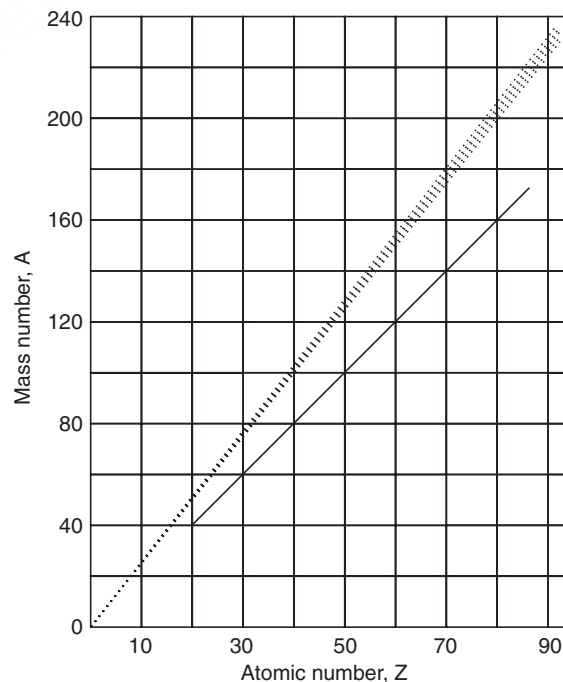

Fig. 3.1
The graph (Fig. 3.1) is a plot of proton number (Z) vs mass number (A). The graph is more or less linear. When the value of Z is less, then the ratio A/Z for a nucleus is 2 *i.e.*, light elements possess equal number of protons and neutrons and the nucleus is stable; when the proton number of the nucleus exceeds 20 the nucleus shows the tendency to be unstable and when the proton number (Z) exceeds 83 the nucleus becomes more or less unstable. As the difference of Z and A increases the nucleus becomes totally unstable. So it can be said that radioactivity is a phenomenon to stabilize the nucleus by decreasing the ratio A/Z of the nucleus.